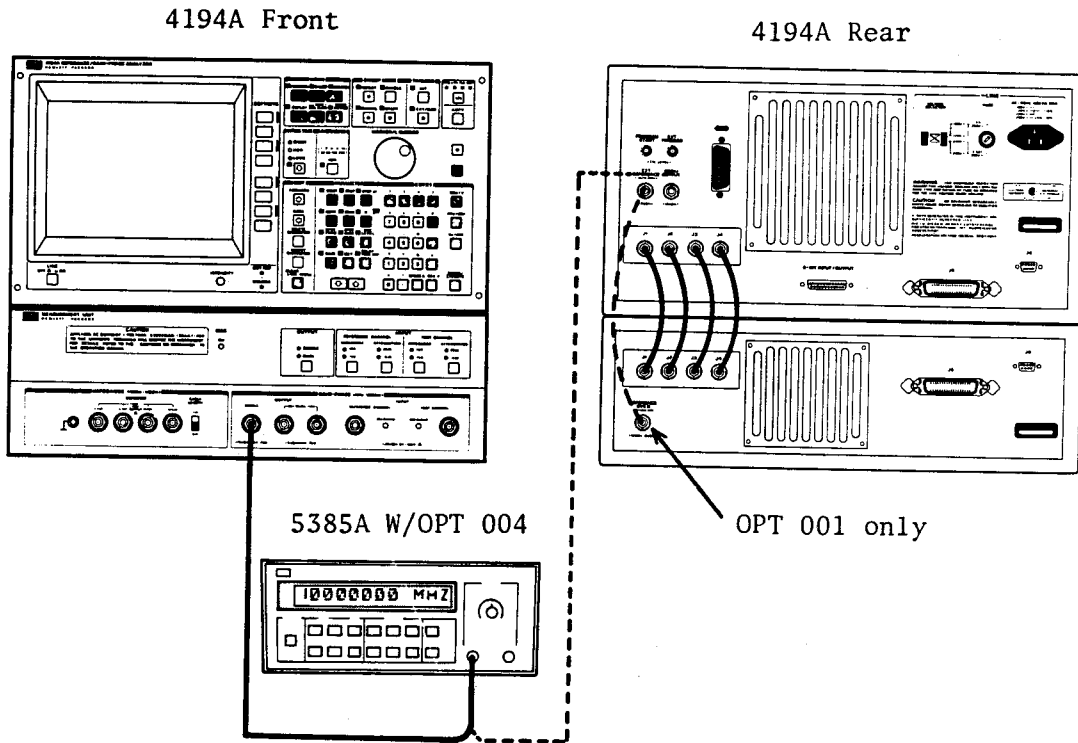

Figure 4-3. Internal Synthesizer Frequency Test Setup
1. Set up the 4194A as shown in Figure 4-3.